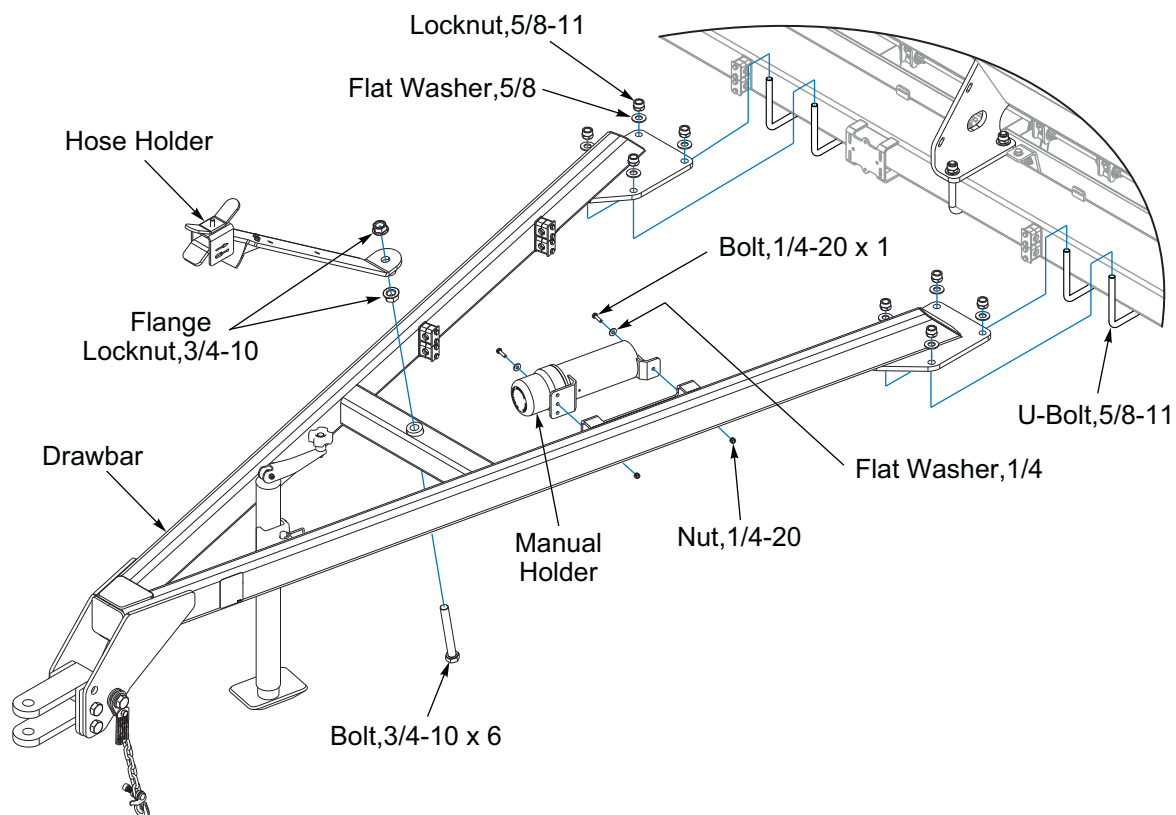

Figure 2-8: Drawbar Installation (After 08/2025)
2. Center Drawbar in relationship with the Seed Box Center Bracket. Attach Drawbar to Seeder Frame Tube with 5/8-11 U-Bolts, Flat Washers and Locknuts. **See Figure 2-8.**